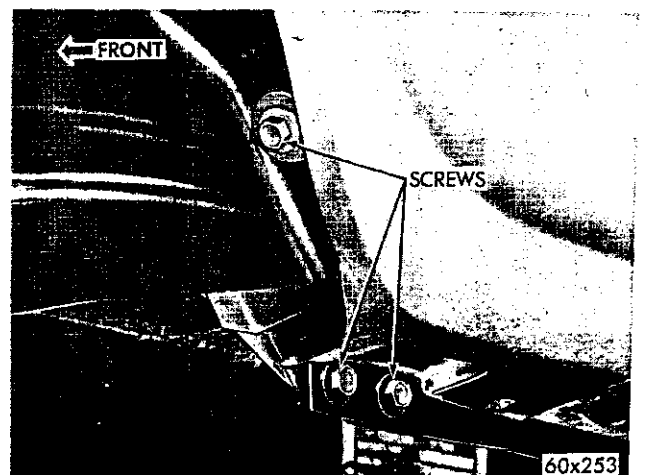
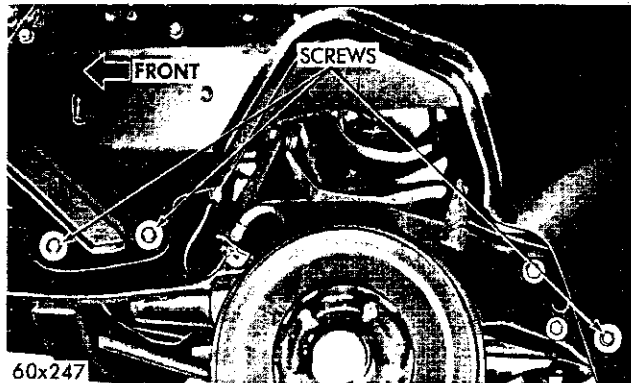

Fig. 8—Splash Shield to Body Frame Mounting
Fig. 9—Splash Shield to Stub Frame Mounting
- (8) Remove the splash shield to body frame bolts (Fig. 8) and the splash shield to stub frame bolts (Fig. 9).
- (9) Remove the fender to body sill bolts (two each side), (Fig. 8) and the fender to body post bolts.